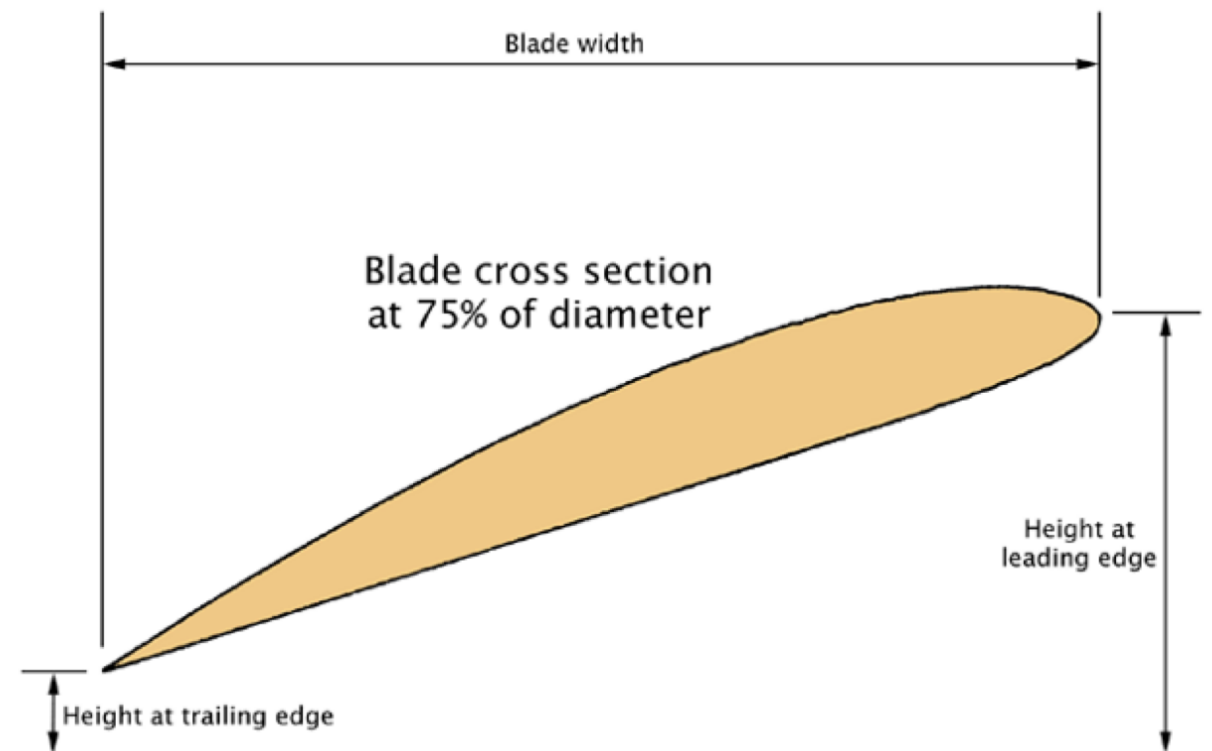

Figure 1. (credit: *Sailplane & Electric Modeler Magazine*)
A prop blade has an aerofoil. You can see it if you look at a broken blade. Not got one? Borrow one of mine or look at Figure 1 later in the article. As it turns
- I measured the heights of the centres of the leading and trailing edges (see Figure 1): rear, 4.5mm; front, 12.5mm; difference, 8mm.